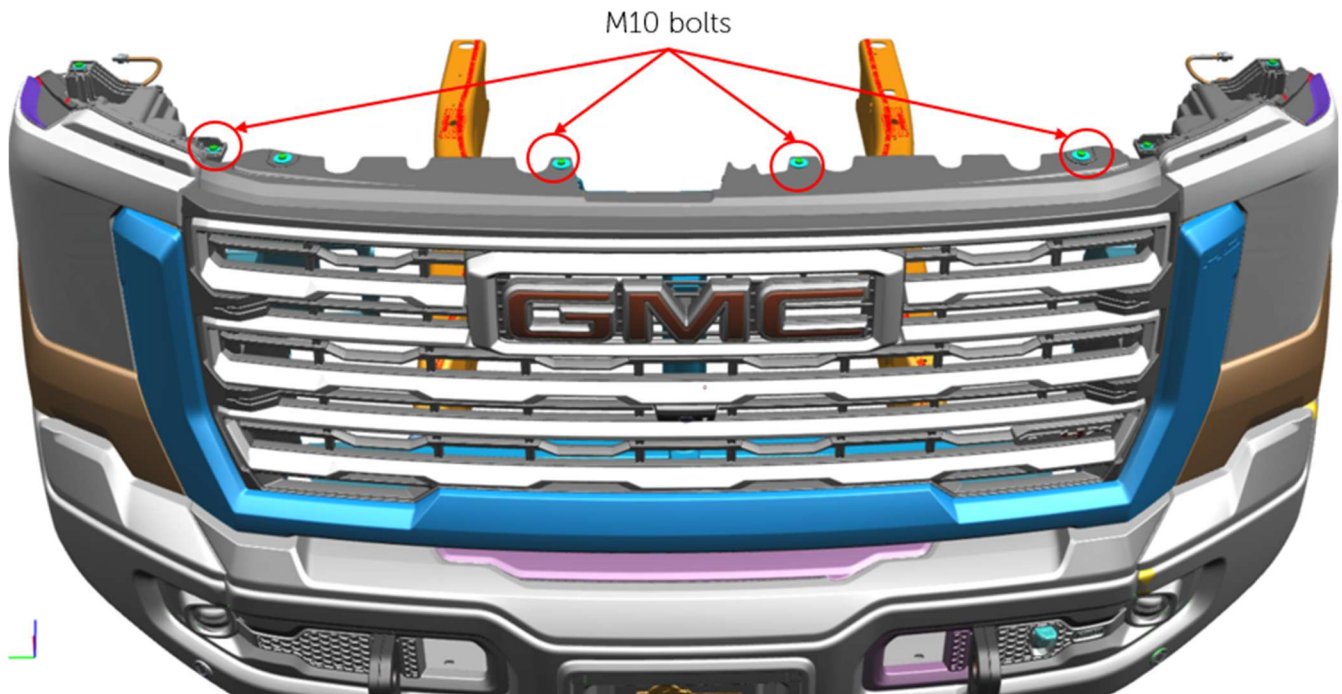

Figure 6
C. Remove bolts holding upper grille to body. – See Fig. 6